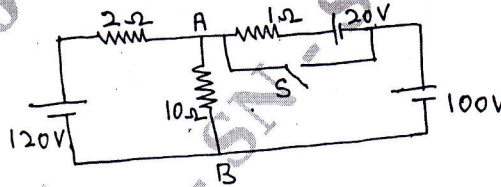

Fig Q1(c)
- In the circuit shown in Fig Q1(c), what is the voltage across AB if (i) Switch S in open and (ii) Switch S is closed.